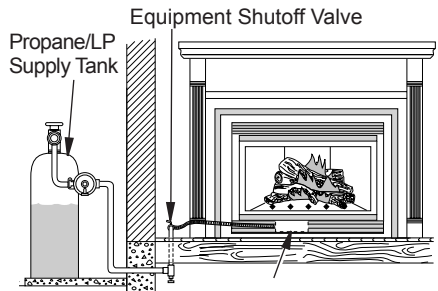
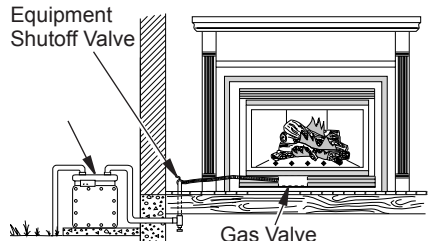

Figure 35 - Checking Gas Joints for Propane/LP Gas Fireplace
Figure 36 - Checking Gas Joints for Natural Gas Fireplace
3. Check all joints from propane/LP supply tank or gas meter to equipment shutoff valve (see Figure 35 or Figure 36). Apply noncorrosive leak detection fluid to all joints. Bubbles forming show a leak. Correct all leaks at once.
4. Check all joints from equipment shutoff valve to gas valve (see Figure 35 or Figure 36, page 24). Apply noncorrosive leak detection fluid to all joints. Bubbles forming show a leak. Correct all leaks at once.